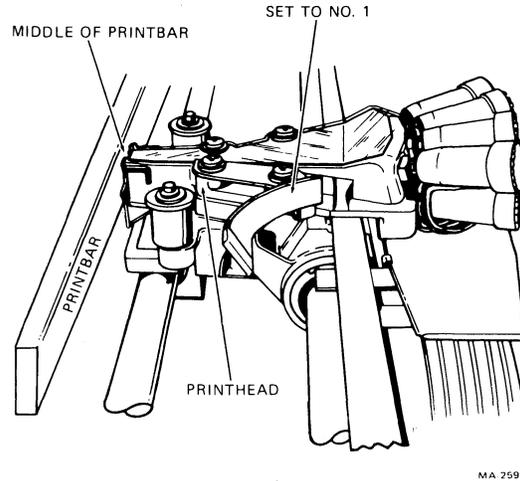

Fig. 31-Print Head Adjustment
- (b) Move print head to the middle of the print bar (Figure 31).